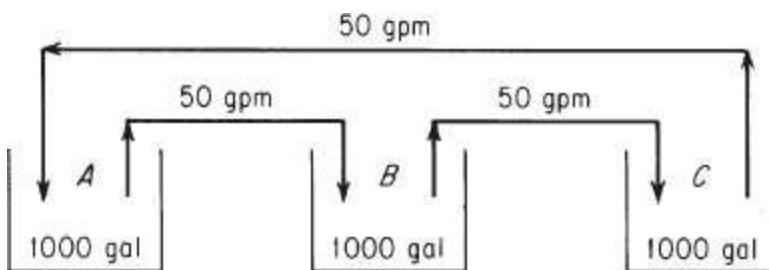

Figure P17.21
17.21. Tanks A, B, and C are each filled with 1000 gal of water. See Figure P17.21. Workers